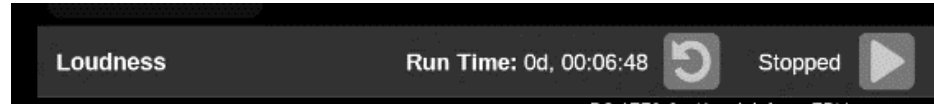

Figure 59: Loudness Display header
- To start and stop the loudness meter: select the  or  button. (See Figure 59.)